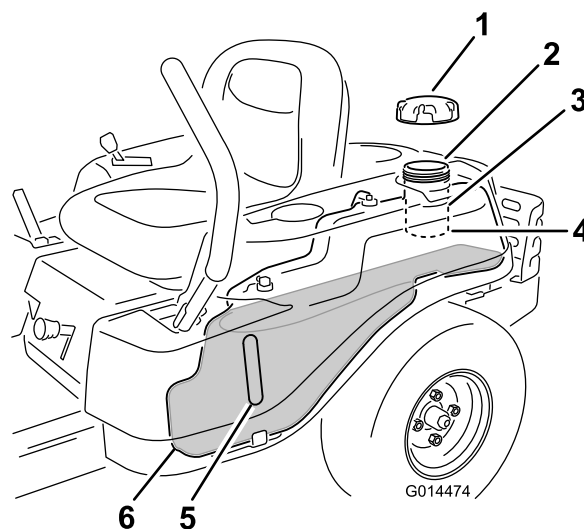

Figure 11
Note: You can use the fuel window to verify the presence of gasoline before filling the tank (Figure 11).
2. **Slowly** add regular, unleaded gasoline until the fuel reaches the base of the filler neck (Figure 11).